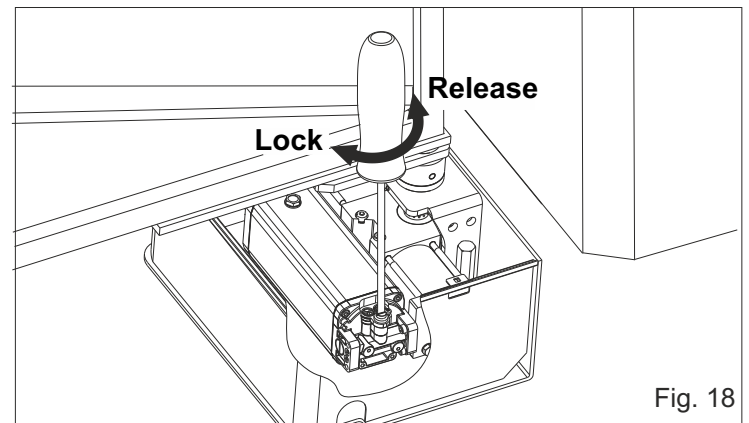

Fig. 18
-Turn the release screw with the screwdriver about 180° ca. in anti-clockwise direction (Fig. 18).